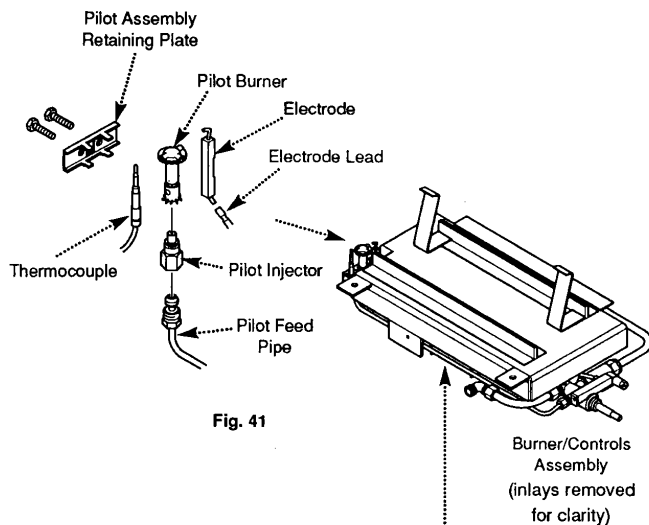

Fig. 41
9.5 Cleaning the Pilot (Fig. 41)
1. Examine the thermocouple and replace if necessary (Fig. 41).